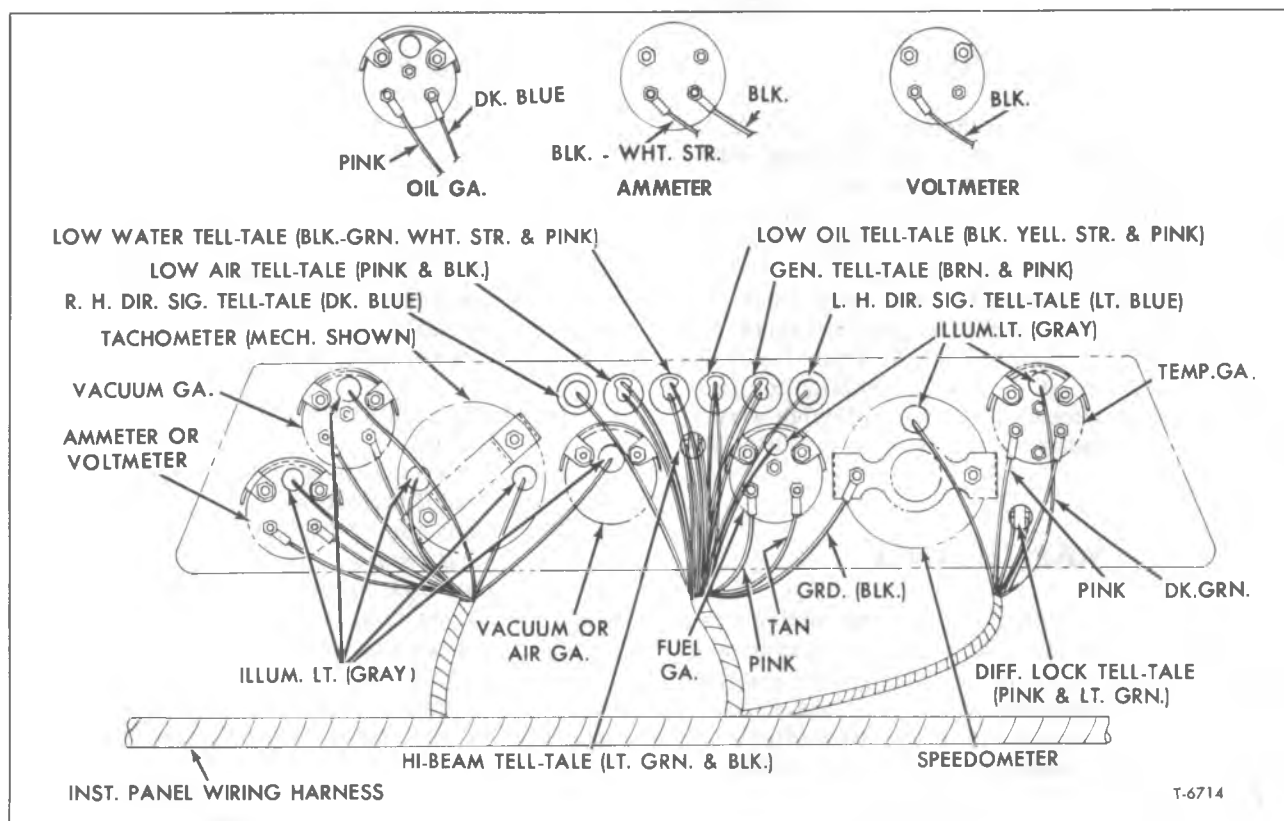

Figure 12—Connections at Rear of Instrument Cluster (Tilt Cab Models) (Typical)
1. Disconnect negative battery cable from the battery, then disconnect wiring harness connectors from under dash panel. Refer to figure 12 for wiring connections at rear of cluster.
**NOTE:** Refer to figure 12 for wiring connections at rear of cluster.